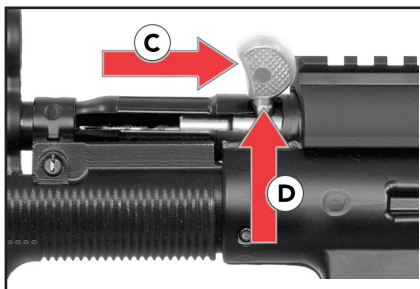

Fig. 26 – Unloading
3. Pull the charging handle (Fig. 26-C) all the way back and place it in the recess notch (Fig. 26-D). A cartridge will be ejected if a round was present in the chamber. If the chamber was empty, no cartridge will be ejected.